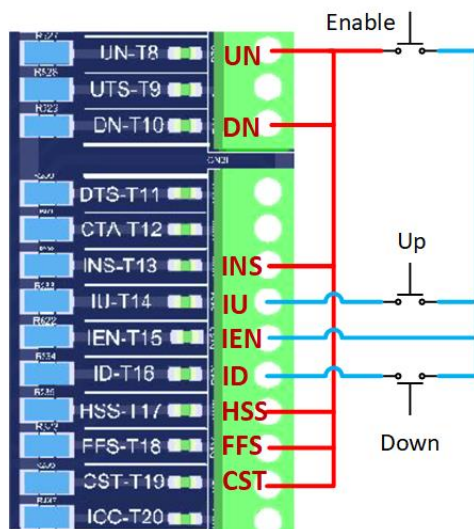

Figure 3-1: GALX-1102AN Main I/O Board With Run Bug. See Figure 3-4 For Run Bug Stop Switch
- 4) Add temporary connections on the GALX-1102 Main I/O Board and Expansion I/O boards as shown in Figures 3-1, 3-2, 3-3, and 3-4.